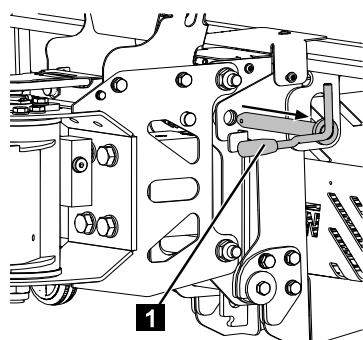

Fig. 155
5. Pull out the basket locking pin (Fig.155/1).